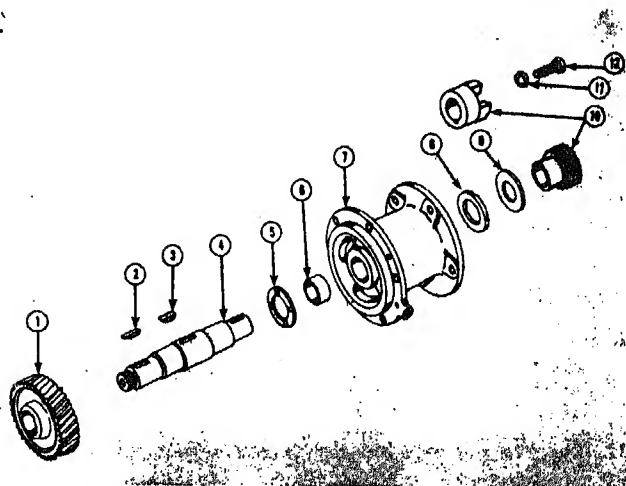
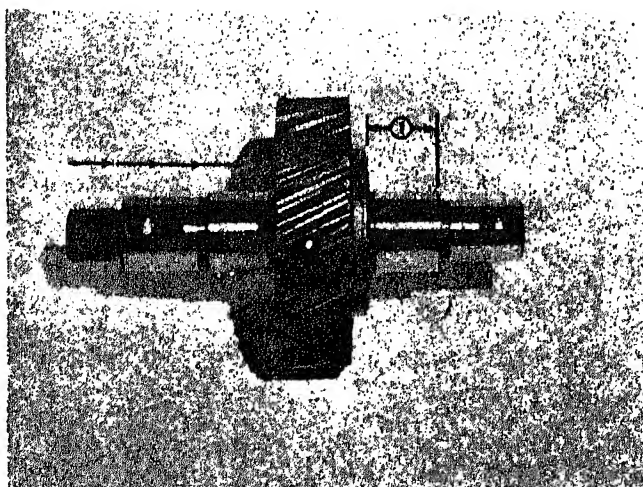

Fig. 9-1-2. Fuel pump drive (IOL)
Fig. 9-1-3. Accessory drive assembly dimension
1. Remove drive shaft cap screw (12, Fig. 9-1-2); using suitable puller, pull coupling (10) from shaft.
Note: On IOL engines, remove clamping washer (9, Fig. 9-1-2) and thrust washer (8).
3. Press shaft from gear (1).
4. Remove keys (2, 3) from shaft (4).
1. On IOL engines, inspect bushing (6, Fig. 9-1-2) in drive support (7). Replace if worn larger than 1.322 in. [33.5788 mm] or if more than 0.002 in. [0.0508 mm] out-of-round. New dimensions are 1.314 to 1.319 in. [33.3756 to 33.5026 mm] in diameter. Available for service only are undersize bushings to compensate for wear; 0.010 in. [0.2540 mm] undersize dimensions are 1.304 to 1.309 in. [33.1216 to 33.2486 mm], 0.020 in. [0.5080 mm] undersize dimensions are 1.294 to 1.299 in. [32.8676 to 32.9946 mm].
4. Inspect gear (1) and coupling (10) for chipped, cracked or worn teeth.
5. Check shaft (4) for wear, damaged keyways or damaged threads. New dimensions for the bushing surface of shaft are 1.3115 to 1.312 in. [33.3111 to 33.3248 mm]. Replace if defective or worn smaller than 1.310 in. [33.2740 mm].
1. Install key (3, Fig. 9-1-2) in shaft (4) and press on gear to 1.143 to 1.145 in. [29.0322 to 29.0830 mm] in direction shown by arrows (1, Fig. 9-1-3).
4. Place shaft (4, Fig. 9-1-2) and gear (1) assembly in support (7).
5. Install second thrust washer (8) and flat washer (9) in support.
- Note:** Some drives use Lovejoy-type couplings which are assembled to shaft with capscrew (12).
7. Install capscrew and lockwasher (12, Fig. 9-1-2).
2. Place thrust washer (5, Fig. 9-1-2) on shaft against gear (1) (except EOL).
3. Press bushing (6) in support (7) if removed on IOL engines.